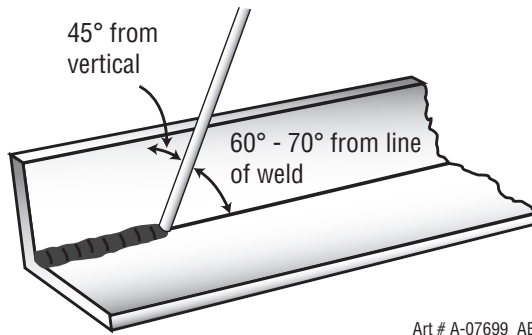
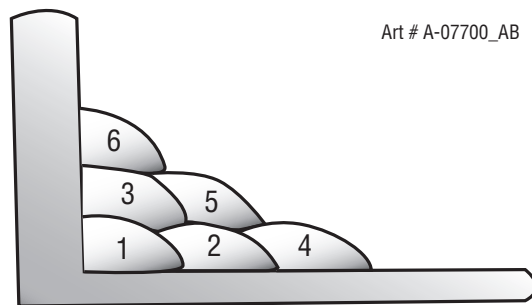

Figure 4-13: Electrode Position for HV Fillet Weld
Figure 4-14: Multi-runs in HV Fillet Weld
A piece of angle iron is a suitable specimen with which to begin, or two lengths of strip steel may be tacked together at right angles. This is known as a horizontal-vertical (HV) fillet. Strike the arc and immediately bring the electrode to a position perpendicular to the line of the fillet and about 45° from the vertical. Some electrodes require to be sloped about 20° away from the perpendicular position to prevent slag from running ahead of the weld. Refer to Figure 4-13. Do not attempt to build up much larger than 1/4" (6.4mm) width with a 1/8" (3.2mm) electrode, otherwise the weld metal tends to sag towards the base, and undercut forms on the vertical leg. Multi-runs can be made as shown in Figure 4-14. Weaving in HV fillet welds is undesirable.